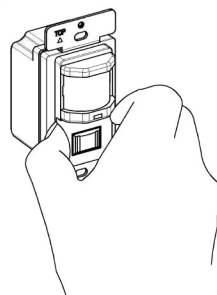

Figure 3
5. Remove the small cover plate (Illustrated in Figure 3).
6. Locate the adjustment knobs on the control panel to perform test and adjustment (Illustrated in Figure 3).